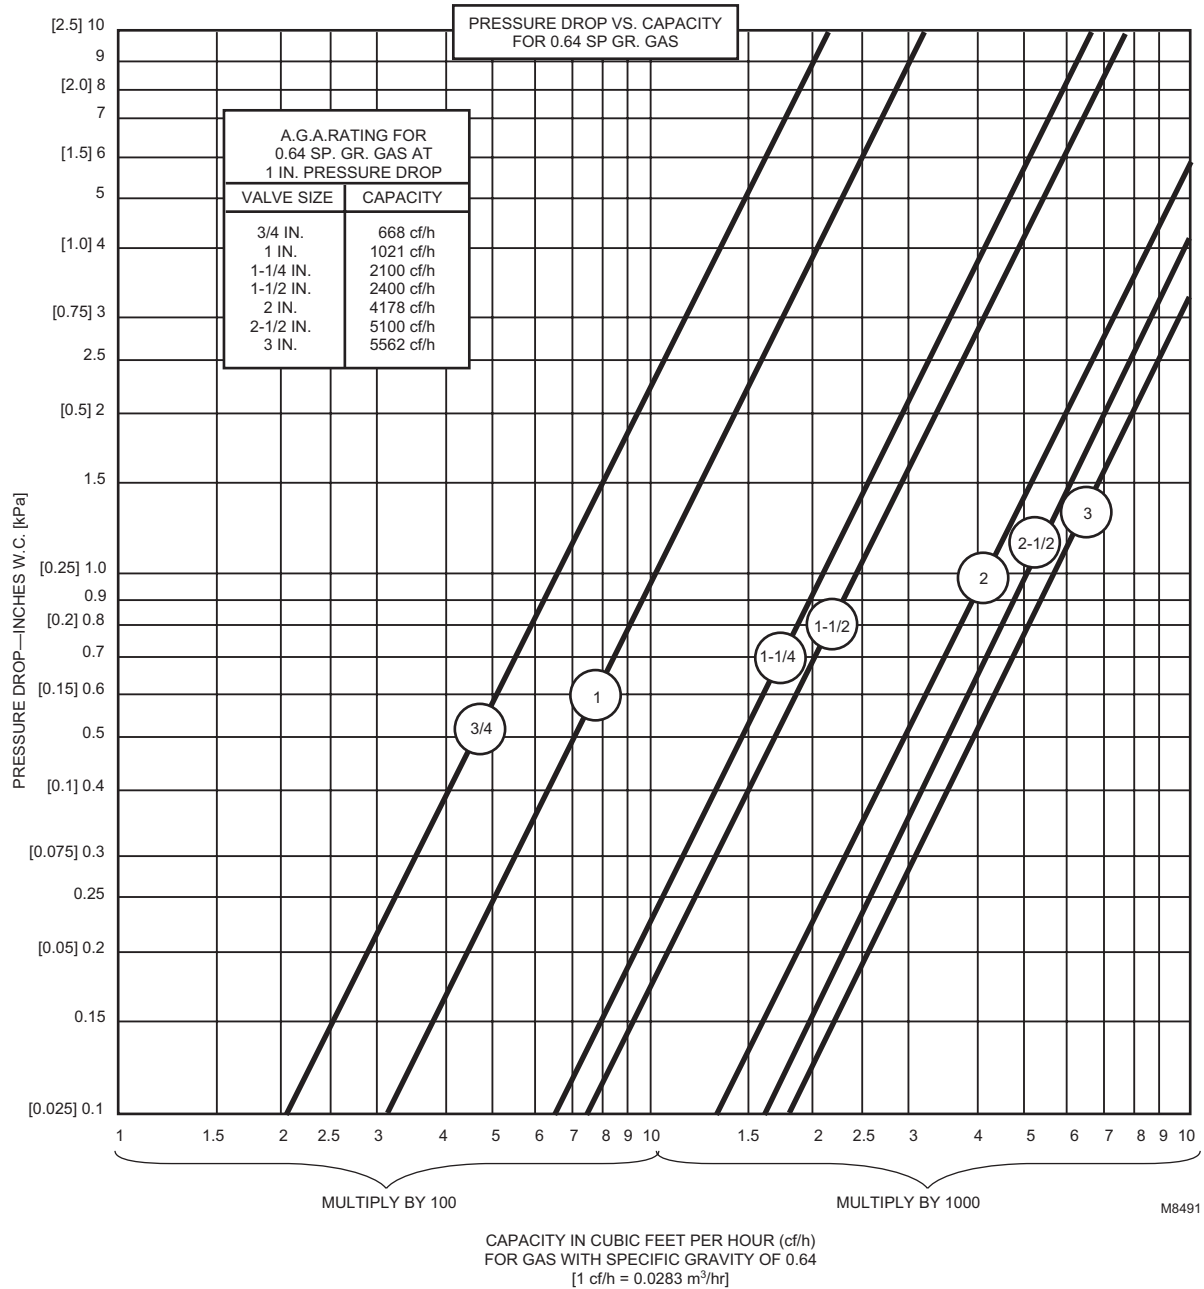

Fig. 2. Pressure drop vs. capacity chart for sizing gas valves.
5. Use the corrected burner capacity in cf/h when determining the gas valve size in Fig. 2.
6. Determine the maximum pressure drop across the valve, and draw a horizontal line at this pressure in Fig. 2.
7. Draw a vertical line in Fig. 2 at the capacity (cf/h) previously determined. Use the corrected capacity for a gas with a specific gravity other than 0.64.
4. Find the valve size from Fig. 2.